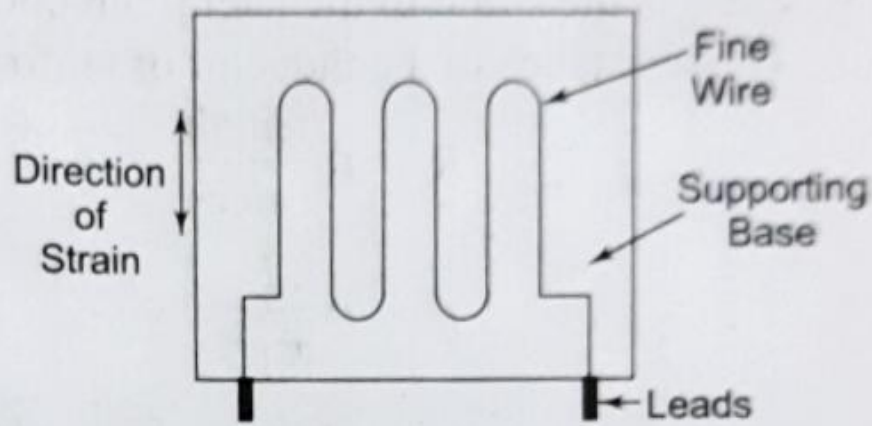

Fig. 13.4 Bonded resistance wire strain gauge
2. **Bonded Resistance Wire Strain Gauges** A metallic bonded strain gauge is shown in Fig. 13.4.